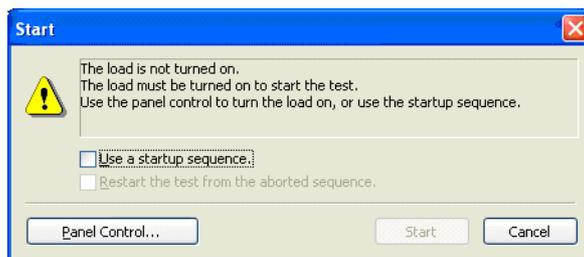

Fig.5-16 When Start is unavailable
The Start dialog box shown in Fig.5-16 appears.
The Start dialog box shown in Fig.5-16 appears. The **Start** button is unavailable until the rise time elapses.
2. In the Start dialog box of Fig.5-16, select the **Use a startup sequence** check box.